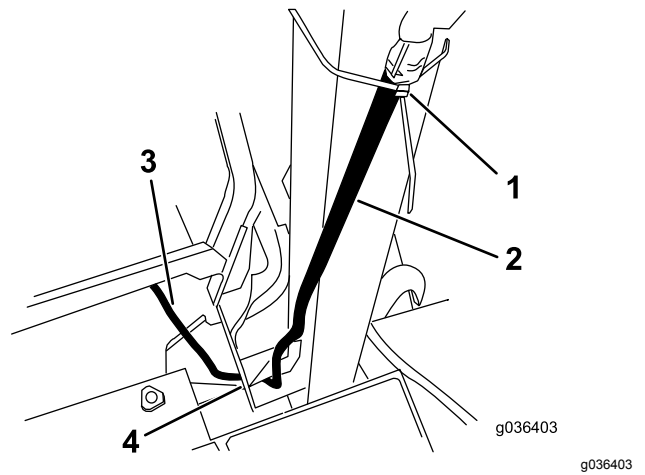

Figure 2
20. If needed, route the lead from the main harness to the front and under the ROPS post for the rear lights (Figure 2).